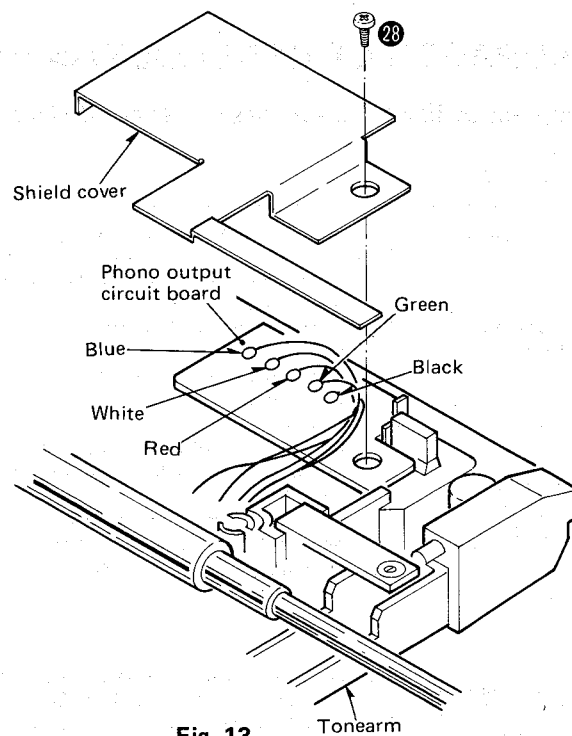

Fig. 13
2. Remove the shield cover setscrew (Fig. 13 : 28 ) and shield cover.